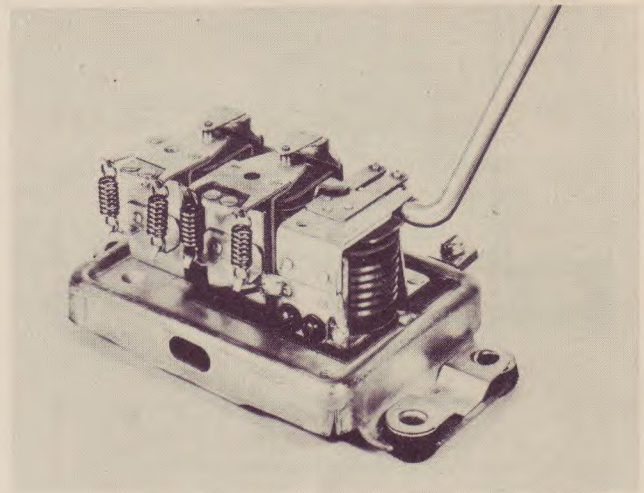

FIGURE 2-17
**The Cut-Out Relay Closing Voltage** is adjusted (Figure 2-17) by bending up on the flat spring post to increase the tension of the flat spring and raise the closing voltage. Bending down on the spring post lowers the closing voltage.